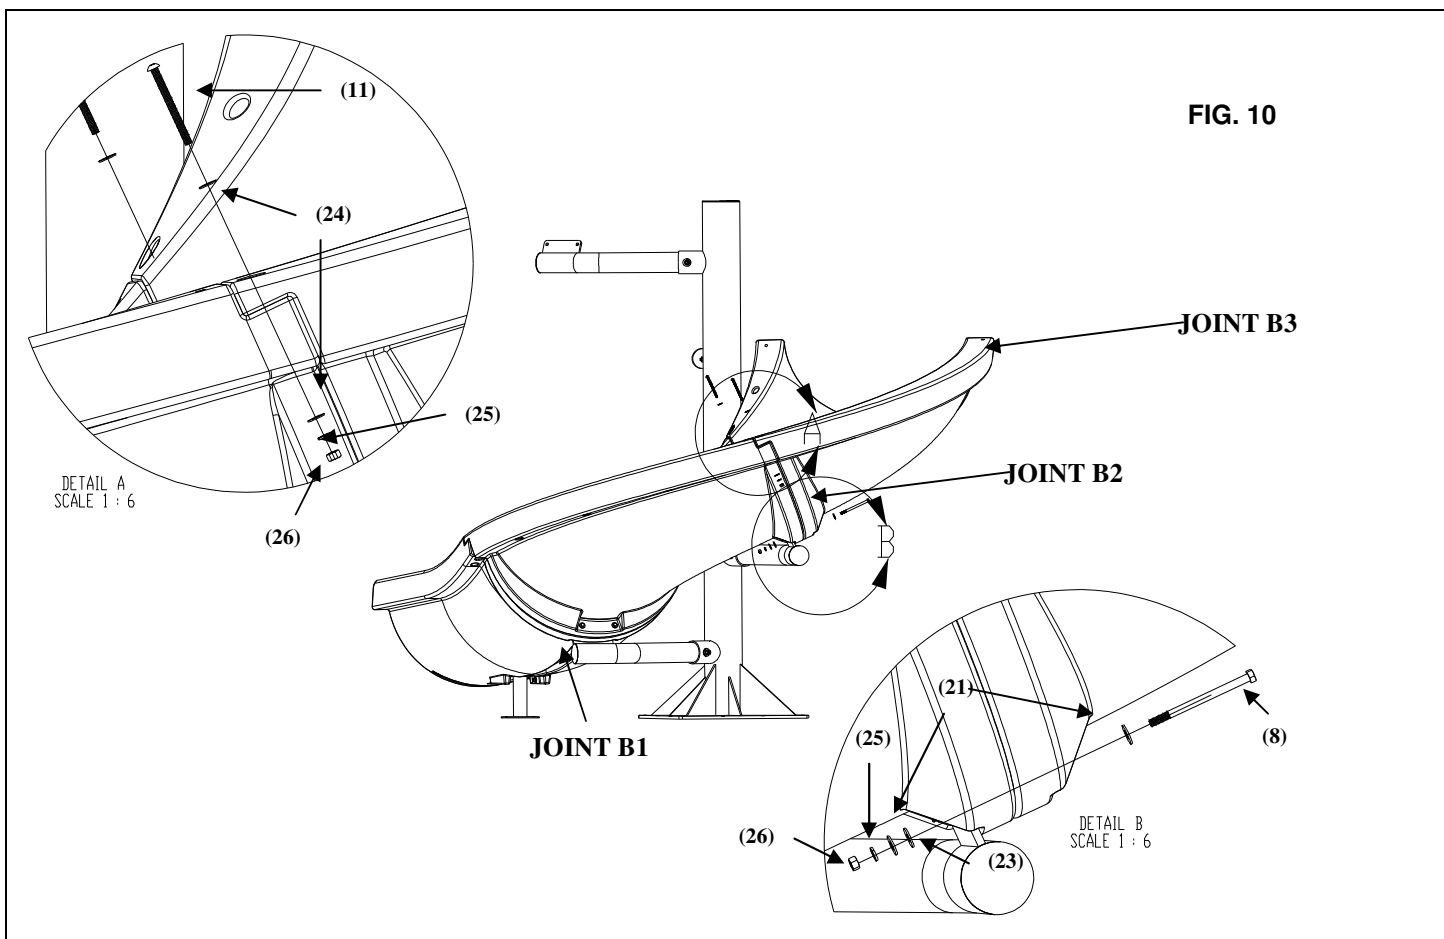

FIG. 10
7) Attach the end of the next Runway Section (2) labeled B2 to the previously assembled runway sections. Insert the hardware through the side rails of the assembly as shown in Figure 10, Detail A. The required hardware is as follows: 3/8"-16 x 4" Button Head Cap Screw S/S (11), 3/8" Flat Washer S/S (24), 3/8" Flat Washer S/S (24), 3/8" Lock Washer S/S (25), 3/8" Hex Nut S/S (26).
Next, attach the runway parts to the 2nd branch arm as shown in Figure 10, Detail B. The hardware required for this step is as follows: 3/8" X 5.5" Hex Bolt(8), 3/8" Flat Washer (21), 3/8" Nylon Washer (23), 3/8" Flat Washer (21), 3/8" Lock Washer (25), and a 3/8" Hex Nut (26). It is important that the Nylon Washer (23) be placed against the metal branch arm bracket.